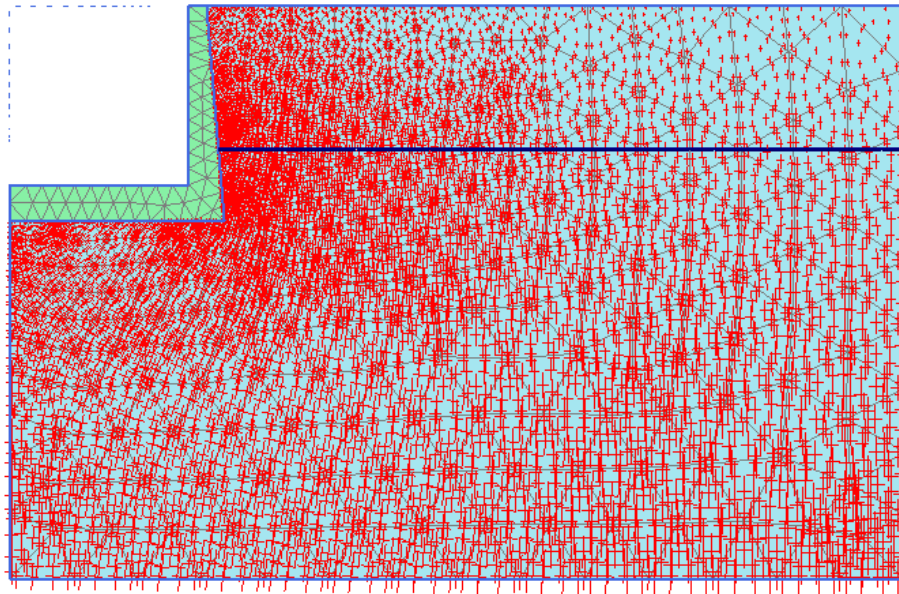

Figure 18–16: Effective principal stresses at the end of Phase_2 in the Principal directions
- Note that the visualisation is different for Figure 18–16 \(p. 284\), because it displays the stresses in the porous materials. This can be changed in **View > Settings** on the tab **Results** (see the Reference Manual for more information).
- Note that Figure 18–16 \(p. 284\) shows the principal stresses for all stress points whereas by default the principal stresses are only shown for the 3 center stress points. This can be changed using the  and  buttons on the navigation bar.